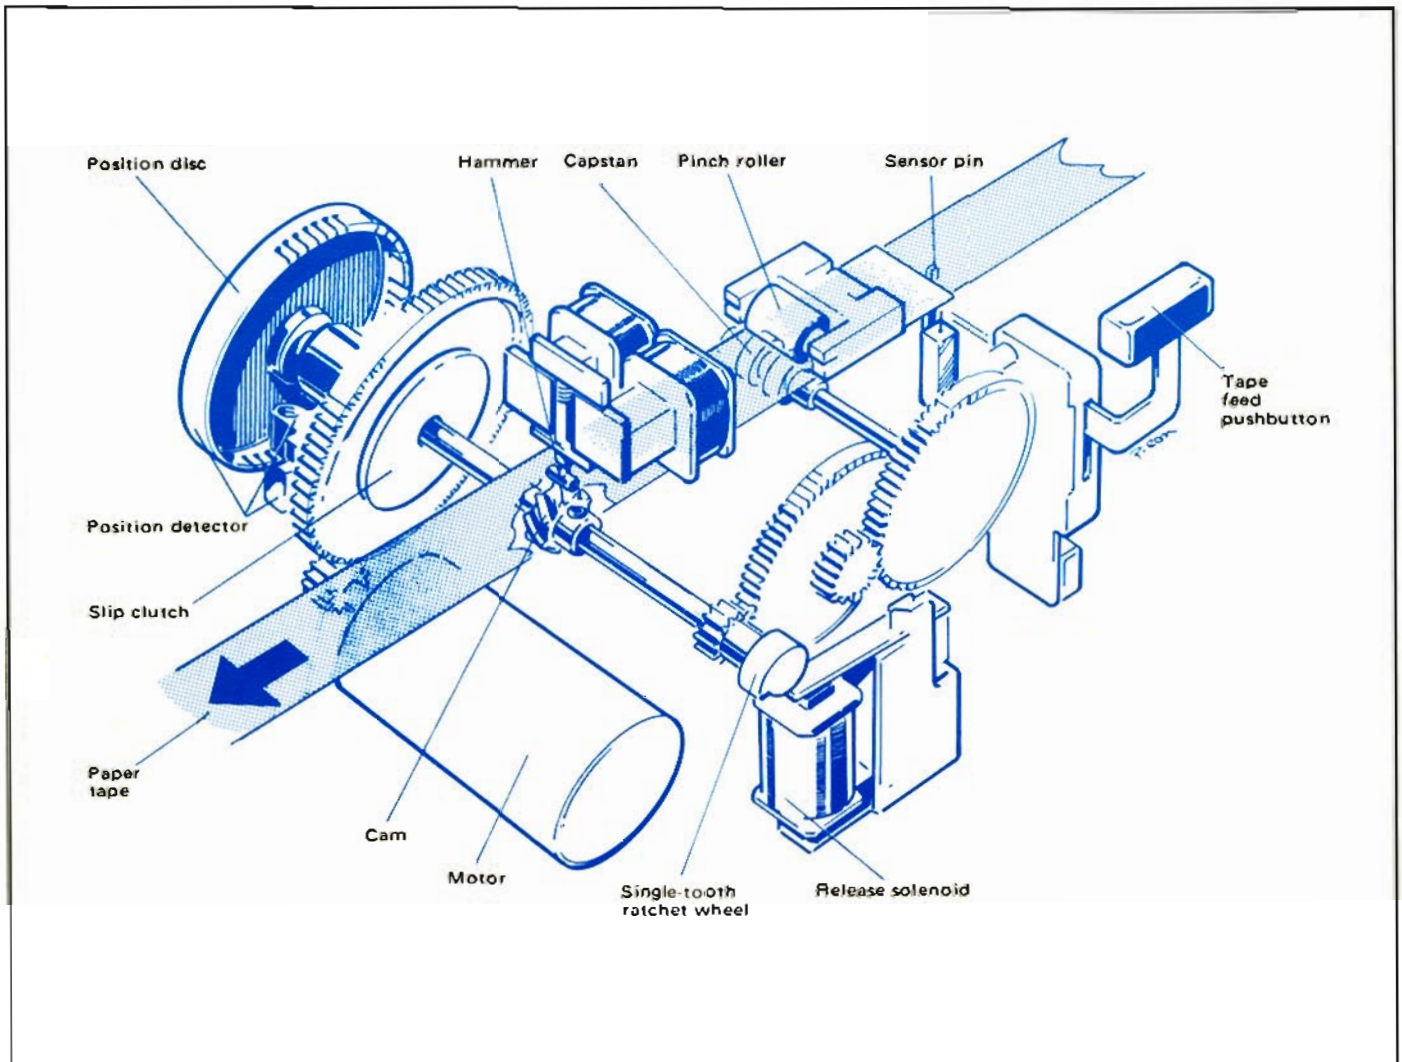

Fig. 4 Mechanical operation
Printing is carried out by a hammer that strikes the paper against a cylindrical cam having helical projections (Fig. 4). Paper tape is fed between hammer and cam by a capstan and pinch roller.
- A position detector is used to synchronize printing. This detector comprises a position disc (Fig. 4) having 35 slots arranged in five groups of seven. Slots correspond to positions in the dot matrix. The position detector sends signals to the control circuits when a slot passes. One revolution of the position disc – and therewith the cam – corresponds to the printing of one character.